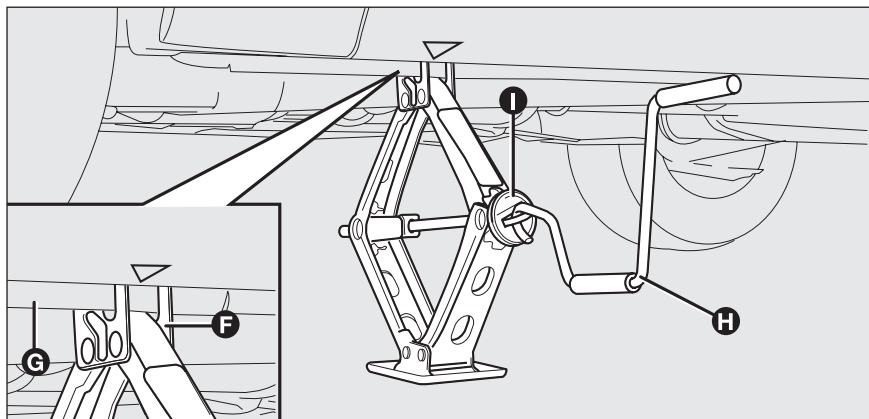

fig. 5
- extend the jack until groove **F**-fig. 5 on the jack fits correctly into ridge **G** underneath the side member;